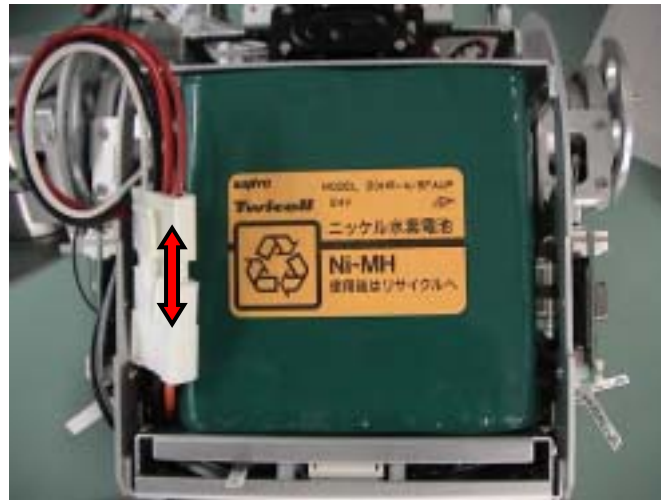

Fig.S1.3-3 Battery connector
- Remove a battery connector (Fig S1.3-3).